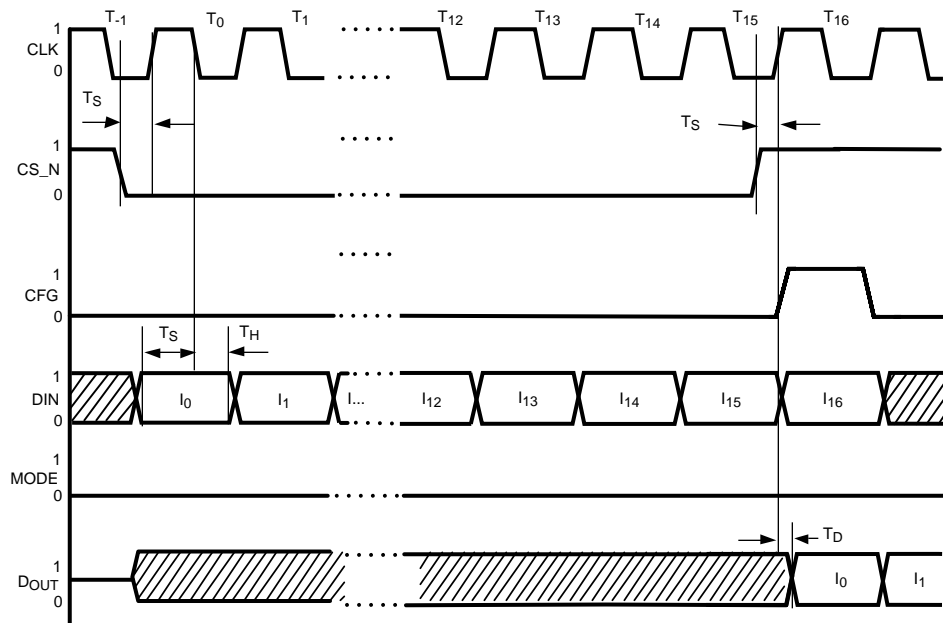

Figure 66. Timing Diagram for Serial Mode
Also illustrated is the timing relationships for the digital pins in Figure 66. It is important to note that all the pin timing relationships are important, not just the data and clock pins. One example is that the Chip Select pin (CS) must transition low before the first rising edge of the clock signal. This allows the internal timing circuits to synchronize to allow data to be accepted on the next falling edge. The chip select pin must then transition high after the final data bit has been clocked in and before another clock signal positive edge occurs to prevent invalid data from being clocked into the chip. Another way to accomplish the same thing is to strobe the clock pin with only the desired number of pulses starting and ending with clock in the low condition. The configure (CFG) pin timing is not so critical, but it does need to be kept low until all data has been shifted into the crosspoint registers.